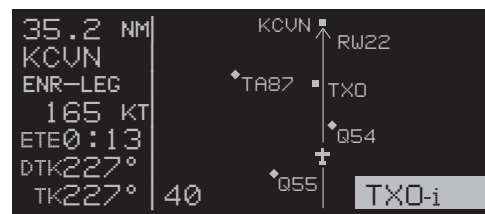

Figure 6-19
2. Approaching the area ATC tells you to go direct-to the TXO VOR and clears you for the approach to KCVN. This is easy to do from the Super NAV 5 page by pulling out on the right inner knob and scanning through the active flight plan by turning the inner knob. Once TXO is displayed in the scanning window (figure 6-19), press **ENT** and then **ENT** to initiate a direct to operation to the TXO VOR.